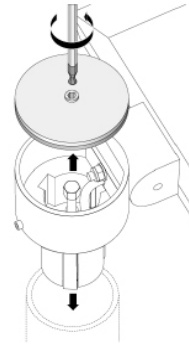

Figure 1
1. Loosen hex screw on pole cap and remove pole cap. (Figure 1)